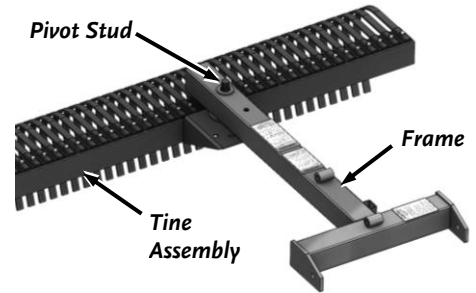

Figure 6
4. With assistance, assemble the Frame (Labels facing up) to the Tine Assembly Pivot Stud (**Figure 6**). Lower the front of the Frame onto the ground.